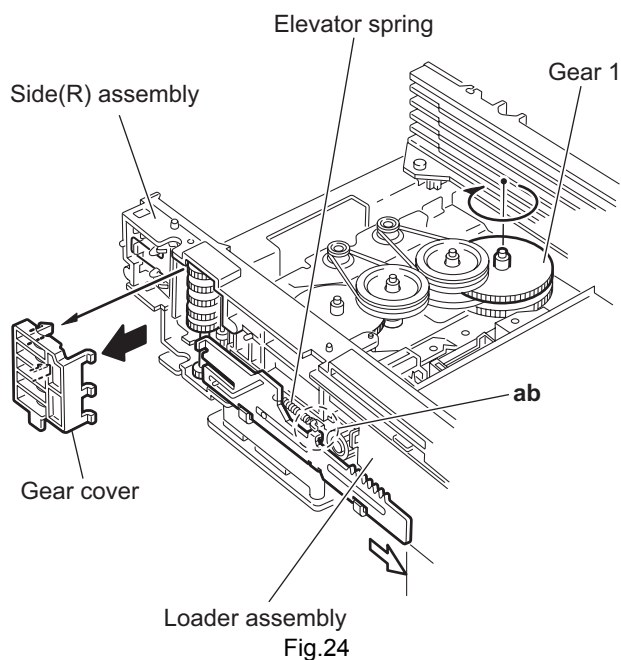

Fig.24
- (2) From the right side of the DVD changer mechanism assembly, remove the elevator spring attached to the hook **ab** of the loader assembly. (See Figs.24 and 25.)